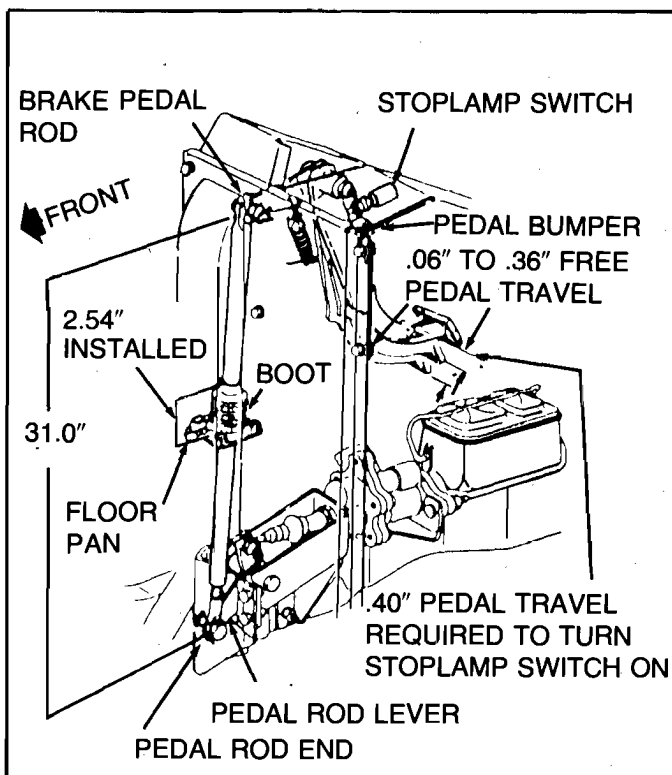

Figure 6-9 — Actuating Rod/Brake Pedal/Stoplight Adjustment
4. Retest as in Step 1. If the vibration is gone, replace the drum. (See Figure 6-9.)
Refer to Figure 6-9.